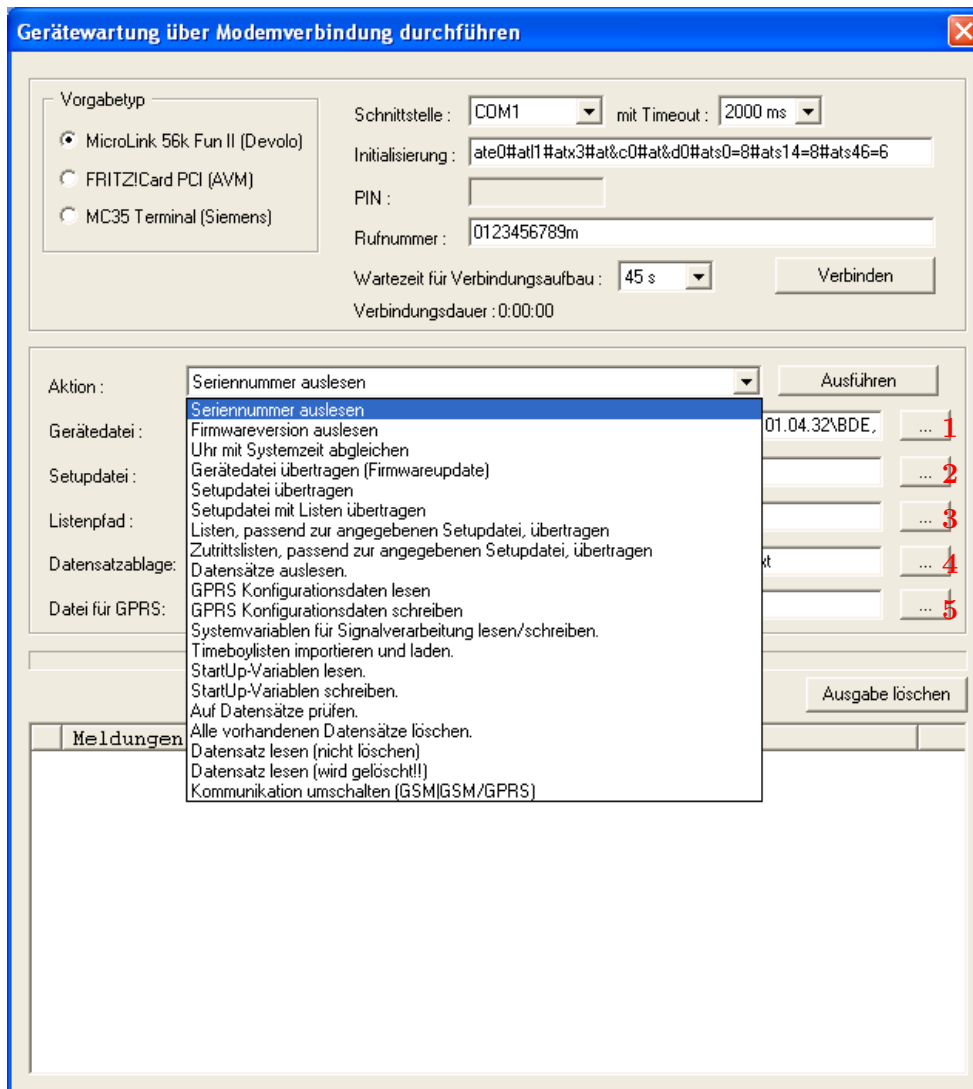

Figure 69: Device maintenance via modem connection
- ▶ Transmit device file (firmware update) - Via the button **1** in figure 69 a dialogue opens where you can select the device file with the extension ".hex". When you have marked the file, you can take it over via the button "Open".
- ▶ Transmit setup file - Via the button **2** in figure 69 a dialogue opens where you can select the setup file with the extension ".aes". When you have marked the file, you can take it over via the button "Open".
- ▶ Transmit setup file with lists - Via the button **3** in figure 69 a dialogue opens where you can define the folder (path) that contains the list files.